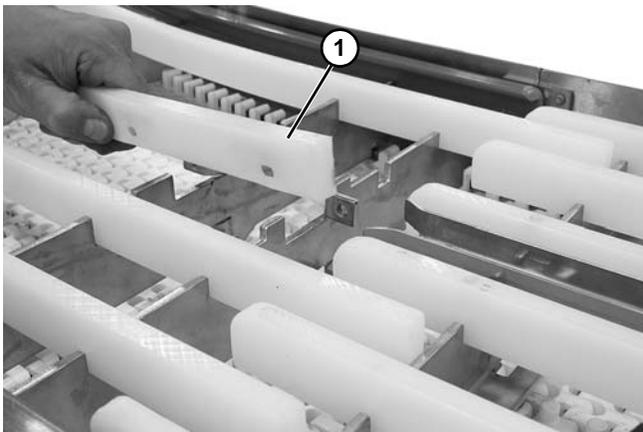

Figure 42
2. Remove the wear strip (**Figure 42, item 1**).